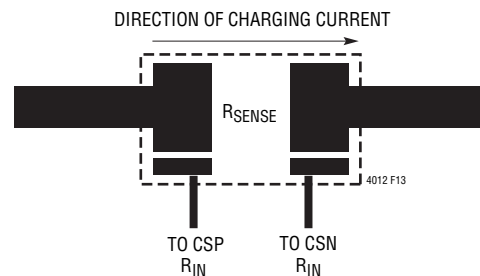

Figure 13. Kelvin Sensing of Charge Current
12. For best current programming accuracy, provide a Kelvin connection from R_{SENSE} to CSP and CSN. See Figure 13 for an example.